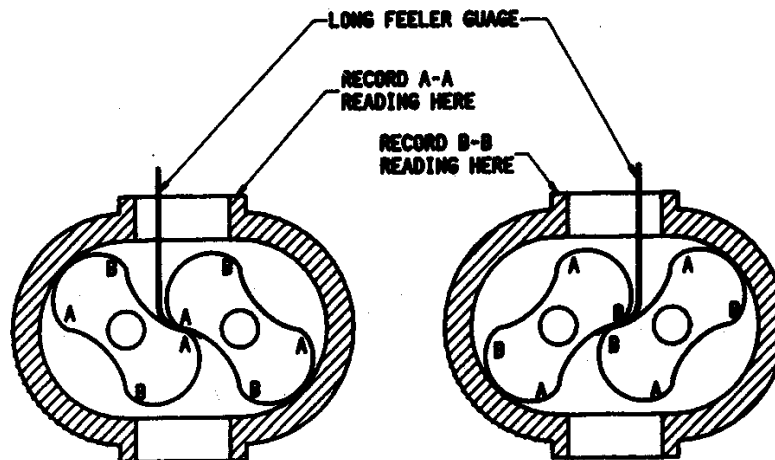

Figure9
- 16) Install oil retainer rings (14) with button head screws (30). Only two required for each ring.
- 17) Install spacer (67) on each shaft. Install oil slinger (21) on lower rotor, (either shaft on vertical flow units) spacer (57) on opposite shaft, washers (25), and screws (29). Lay assembly down with drive on left for timing.
- 18) Using feeler gauges take interlobe readings and record on each side of housing as indicated in Figure 9. By removing or adding shim behind the helical gear, it rotates as it is moved in or out and the driven rotor turns with it, thus changing the clearance between rotor lobes. Changing the shim thickness .006 will change the rotor lobe clearance .003 or one half the amount.
EXAMPLE: Referring the Figure 9 on page 17, check the clearance at AA (right hand reading) and BB (left hand reading). If AA reading is .009 and BB reading .003 by removing .006 shims, the readings will change one half the amount removed or .003. AA should then read .006 and BB should read .006. The final reading should be within .002 of each other.